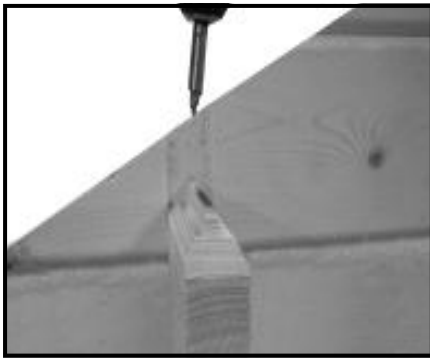

Fig G1
3. Fix the gable with 1x80mm screw at each end (fig G1 and as shown on the drawing pages (Some screws may go into roof joists)